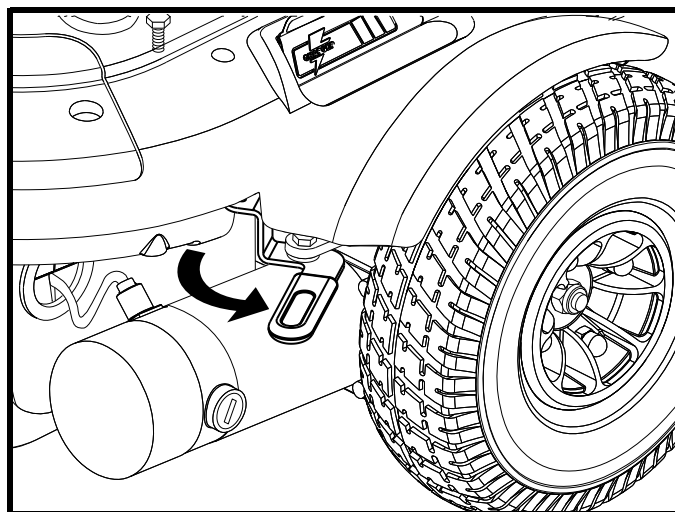

Figure 9. Freewheel Mode (Drive Disengaged)
3. Pull both levers outward to disengage the drive motors (freewheel mode). See figure 9.